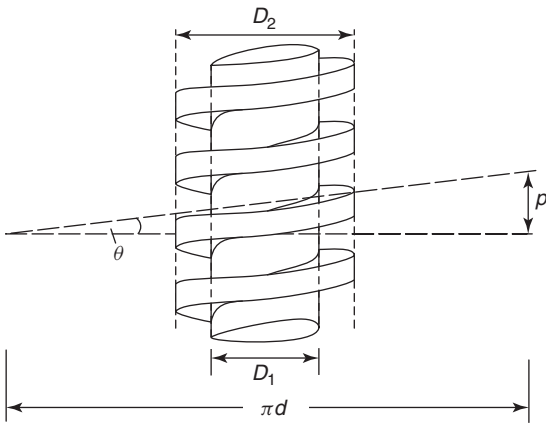

Figure 15.15
Consider the thread of the square-threaded screw jack shown in Figure 15.15.
Let p be the pitch of the thread, i.e. the axial distance that the weight W is lifted or lowered when the screw is turned through one complete revolution. From Figure 15.15, the motion of the screw in lifting the weight can be regarded as pulling the weight by a horizontal force P , up an incline θ , where
as shown in Figure 15.15, and
However, from Figure 15.15,
From Figure 15.15, the **actual work done**
- The coefficient of friction on the sliding surface of a screw jack whose thread is similar to Figure 15.15, is 0.24. If the pitch equals 12 mm, and $D_1 = 42$ mm and $D_2 = 56$ mm, calculate the efficiency of the screw jack. [24.06%]